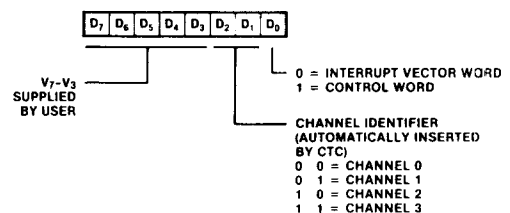

Figure 7. Interrupt Vector Word
**Interrupt Vector Programming.** If the Z80 CTC has one or more interrupts enabled, it can supply interrupt vectors to the Z80 CPU. To do so, the Z80 CTC must be pre-programmed with the most-significant five bits of the interrupt vector. Programming consists of writing a vector word to the I/O port corresponding to the Z80 CTC Channel 0. Note that  $D_0$  of the vector word is always zero, to distinguish the vector from a channel control word.  $D_1$  and  $D_2$  are not used in programming the vector word. These bits are supplied by the interrupt logic to identify the channel requesting interrupt service with a unique interrupt vector (Figure 7). Channel 0 has the highest priority.